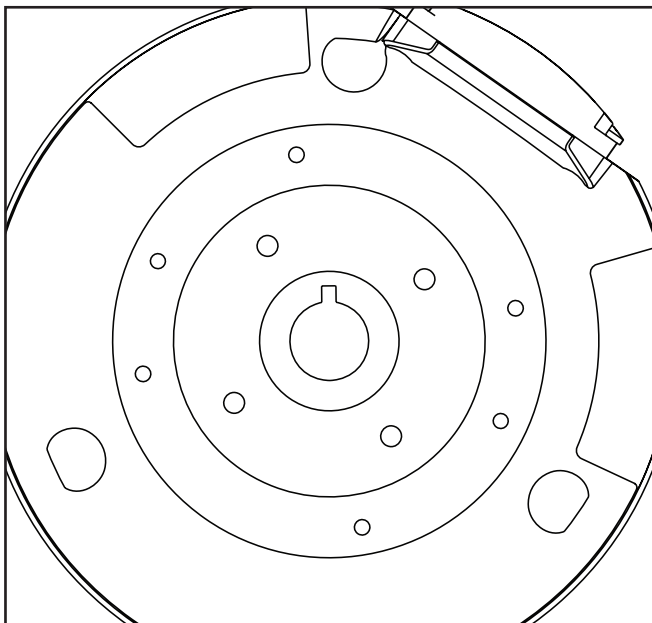

Figure 1. 22° Flywheel (no Identification Mark).
1. Determine the flywheel in use by comparing it to Figures 1 and 2.